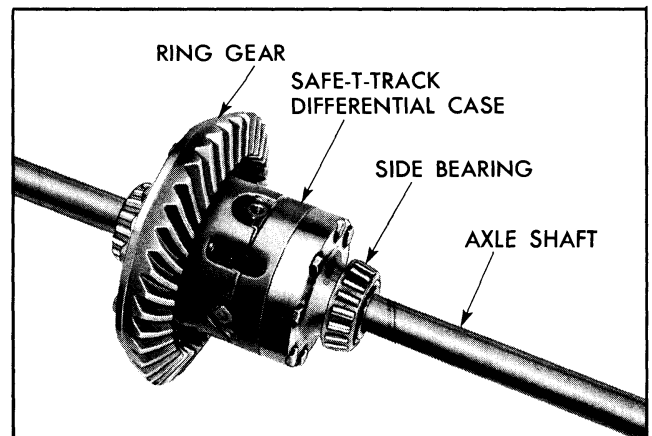

Fig. 4-68 Aligning Differential Case Parts
7. Use the axle shafts from the vehicle and align the splines of the side gear with the side gear ring. (See Fig. 4-68.)